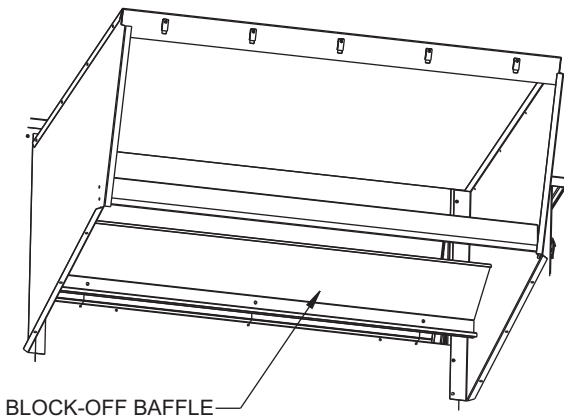

Fig. 26 — Mounting Block-Off Baffle to the Unit
9. Locate and mount block-off baffle using 3 screws. See Fig. 26.